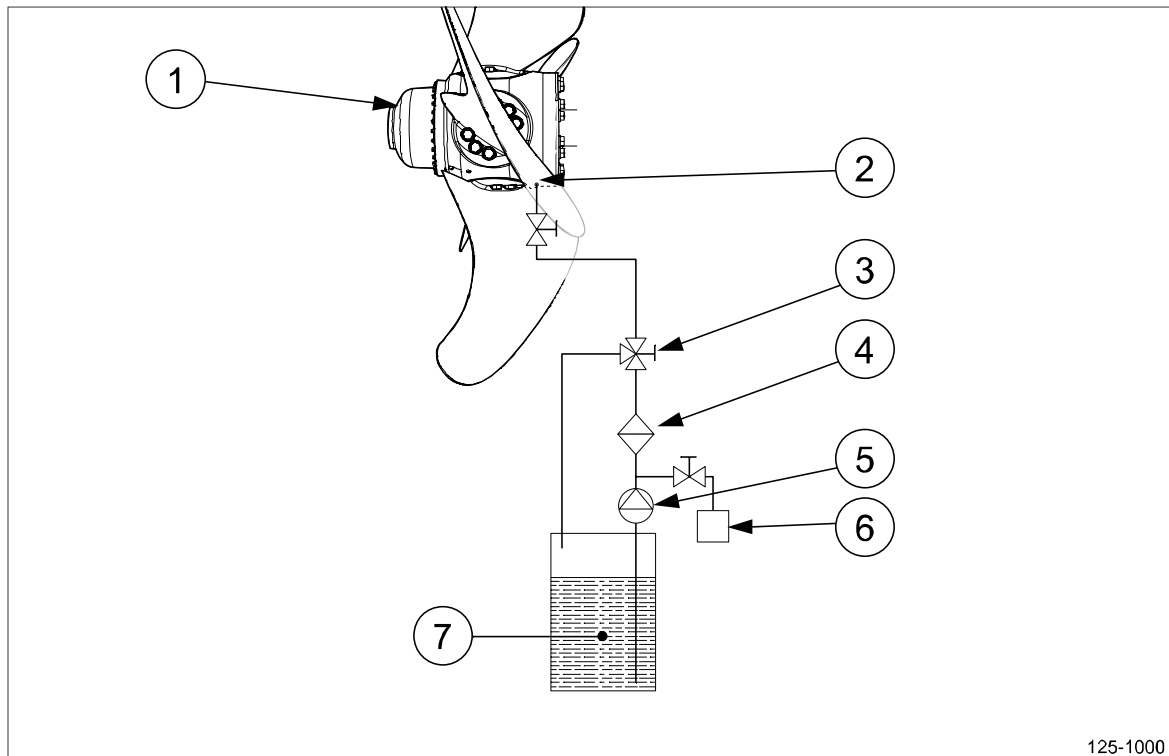

Figure 1 Initial position of the hub when purifying and filling the oil.
1. Turn the propeller shaft until the forward plug, on the propeller hub, is directed straight downwards and the aft plug is directed straight upwards (see figure 1).
3. Use an external oil filling unit and a filter to purify the oil and to fill the hub. Attach the external oil filling unit and filter according to figure 1.
4. Manoeuvre the three way valve (see position 1 in figure 1) to enable the oil flow to return directly to the oil container (see position 3 in figure 1) without passing through the hub.
5. Purify the oil by circulating it through the external filter until the desired particle value is noted by for example a particle counter. Attach the particle counter to the hub according to position 6 in figure 1.
6. Manoeuvre the three way valve to enable the oil flow to fill the hub from bottom to top. The air trapped inside the hub is allowed to evacuate through the aft plug hole (see position 1 in figure 1).
7. When oil is coming out of the plug hole (see position 1 in figure 1), turn off the filling unit and fit a valve and hose to the plug hole.